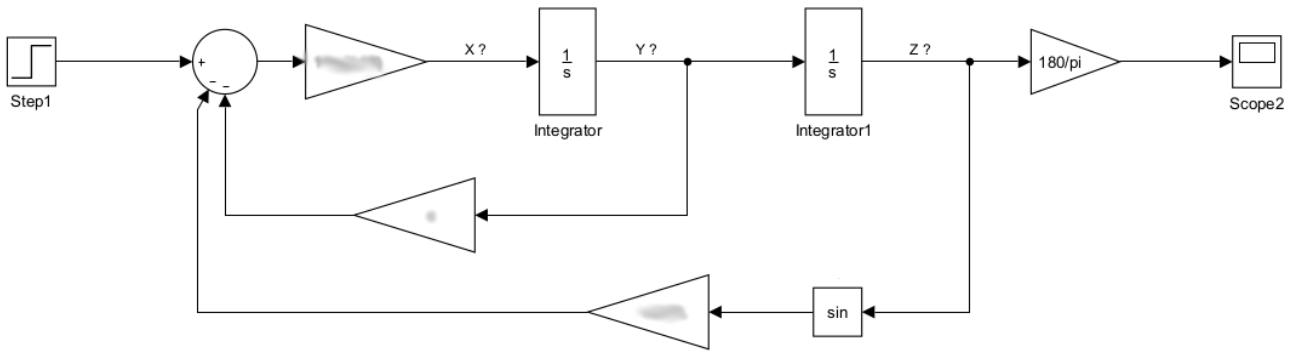

Figure 4
- (a) Open a new Simulink model. Create a subsystem, [3], whose input is thrust force and output is angular position. Do NOT linearize the dynamics of the system given in (1). **Submit this model for Question 2.**
**Hint: A partially constructed model of the PLA where some blocks are not shown is demonstrated in Fig. 4.**
- (b) What do X, Y and Z signals in Fig. 4 stand for in the real system?